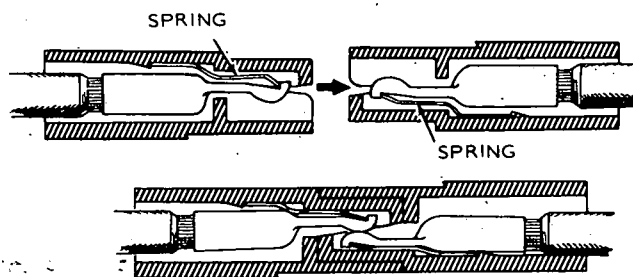

FIGURE 12. CONNECTOR HOUSING AND TERMINAL CONNECTION DETAILS
Each terminal can be removed from the plug by using a thin blade to release the terminal while a slight pull is made on the cable, Figure 12.
4. The cable and plug are now ready for mating with the receptacle on the alternator as soon as the other end of the cable is attached to the power pole transfer switch. See Figure 12.